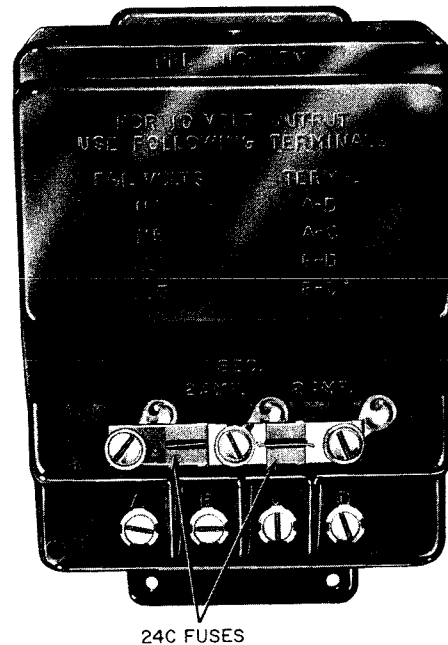

Fig. 1—393B Transformer
2.01 The 393B transformer (Fig. 1) is used primarily as a power supply for 10-volt lamps in 1A, 1A1, and 1A2 key telephone systems. It is furnished in a metal box with a removable cover. The box is approximately 8-3/4 inches long, 4-1/4 inches high, and 4 inches deep.
The 24-type fuses of later design are manufactured with a metallic surface on one side only. When placing these fuses in the 393B transformer, be sure the nonmetallic sides of the fuses are together on the center post (Fig. 1).